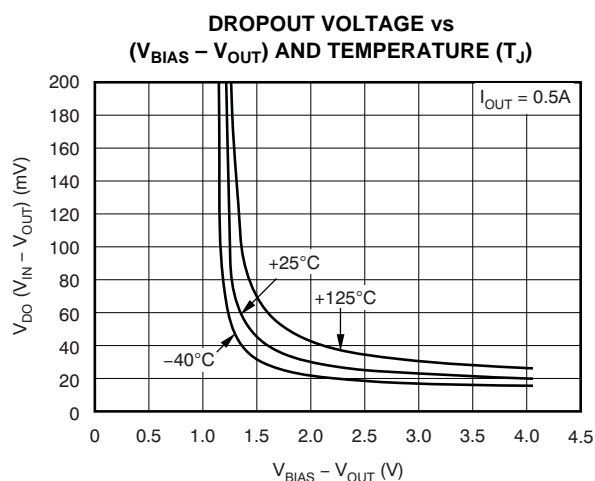

Figure 8.
(1) Adjustable devices tested at 0.8V; resistor tolerance is not taken into account.
(2) Dropout is defined as the voltage from  $V_{IN}$  to  $V_{OUT}$  when  $V_{OUT}$  is 3% below nominal.
(3) 1.62V is a test condition of this device and can be adjusted by referring to Figure 8.
(1) 1.62V is a test condition of this device and can be adjusted by referring to Figure 8.